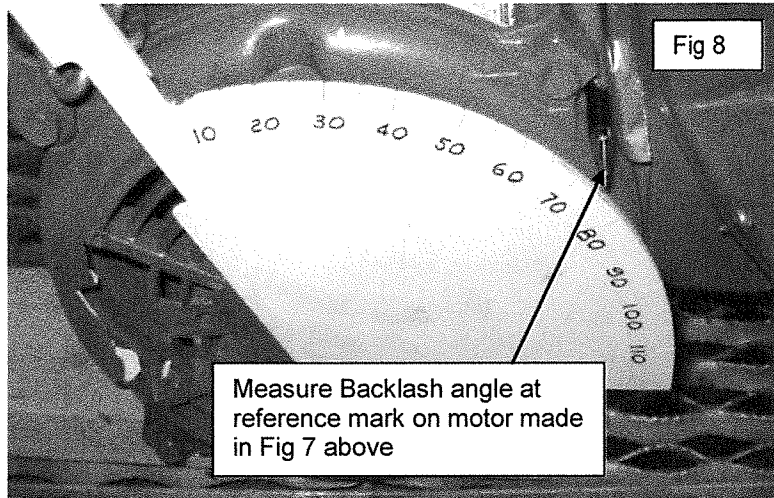

Figure 8 – Protractor rotated counterclockwise
- Now using the protractor tool, turn the motor counterclockwise until the gearbox tightens up again on the other side of the gears. Again, this will not require a lot of force. One foot pound is sufficient. (See Fig 8)